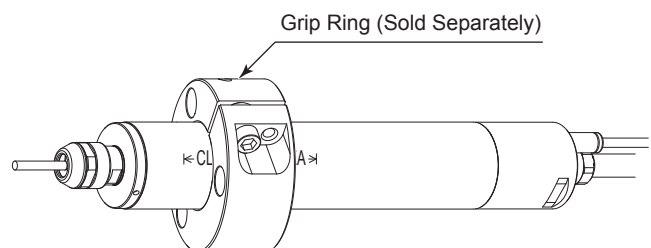

Fig. 14
- \* When installing the Motor Spindle, it is recommended to use a "GR - 30 Grip Ring (sold separately)" (Fig.14). If the GR - 30 Grip Ring cannot be used due to the restriction of dimension and space, install as shown in ② below.